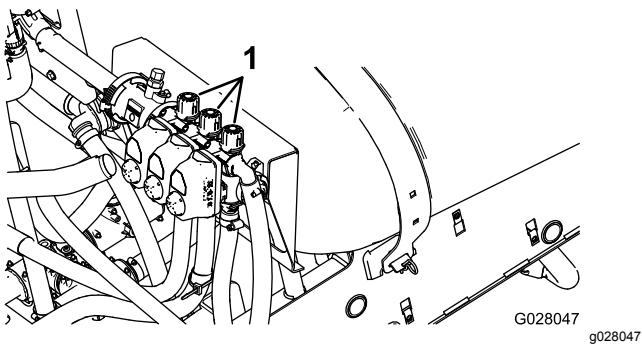

Figure 74
10. Turn off the left boom and adjust the boom bypass valve (Figure 74) until the pressure reading is at the previously adjusted level (typically 40 psi or 2.75 bar).
12. Adjust the right boom bypass valve (Figure 74) until the pressure reading is at the previously adjusted level (typically 40 psi or 2.75 bar).
14. Adjust the center boom bypass valve (Figure 74) until the pressure reading is at the previously adjusted level (typically 40 psi or 2.75 bar).